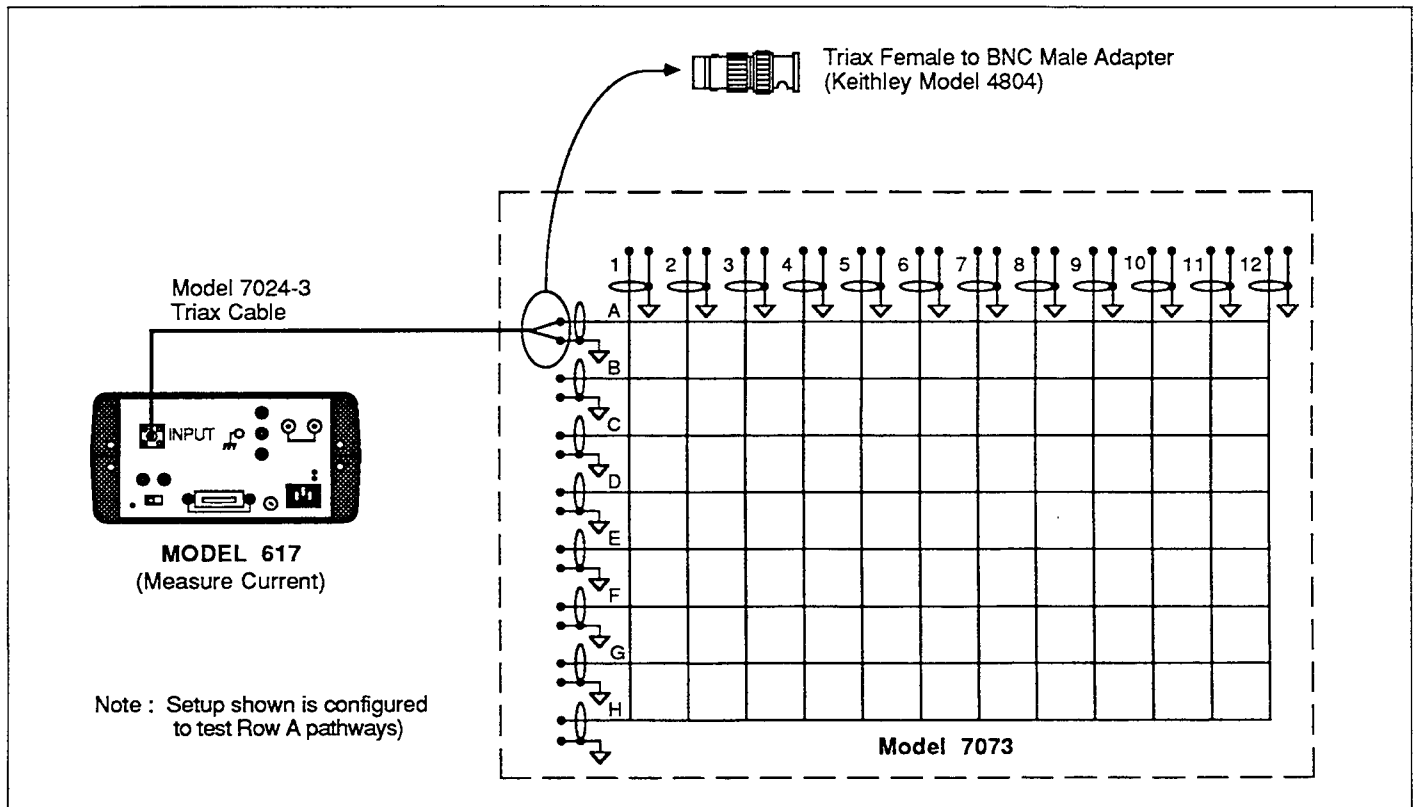

Figure 4-3. Offset Current Testing
Referring to Figure 4-3, perform the following procedure to check offset current:
4. Connect the Model 617 to ROW A of the Model 703 matrix card as shown in Figure 4-3.